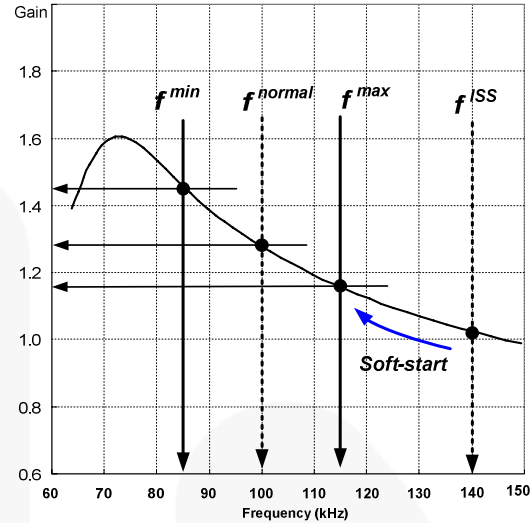
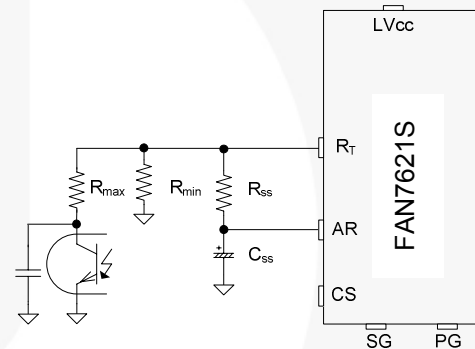
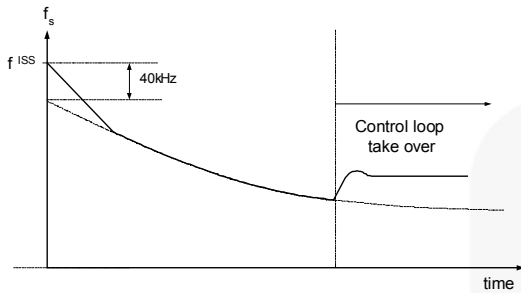

Figure 17. Resonant Converter Typical Gain Curve
Figure 18. Frequency Control Circuit
Figure 19. Frequency Sweeping of Soft-Start
3. Frequency Setting: Figure 17 shows the typical voltage gain curve of a resonant converter, where the gain is inversely proportional to the switching frequency in the ZVS region. The output voltage can be regulated by modulating the switching frequency. Figure 18 shows the typical circuit configuration for R_T pin, where the opto-coupler transistor is connected to the R_T pin to modulate the switching frequency.
To prevent excessive inrush current and overshoot of output voltage during startup, increase the voltage gain of the resonant converter progressively. Since the voltage gain of the resonant converter is inversely proportional to the switching frequency, the soft-start is implemented by sweeping down the switching frequency from an initial high frequency (f^{ISS}) until the output voltage is established. The soft-start circuit is made by connecting R-C series network on the R_T pin, as shown in Figure 18. FAN7621S also has an internal soft-start of 3ms to reduce the current overshoot during the initial cycles, which adds 40kHz to the initial frequency of the external soft-start circuit, as shown in Figure 19. The initial frequency of the soft-start is given as: